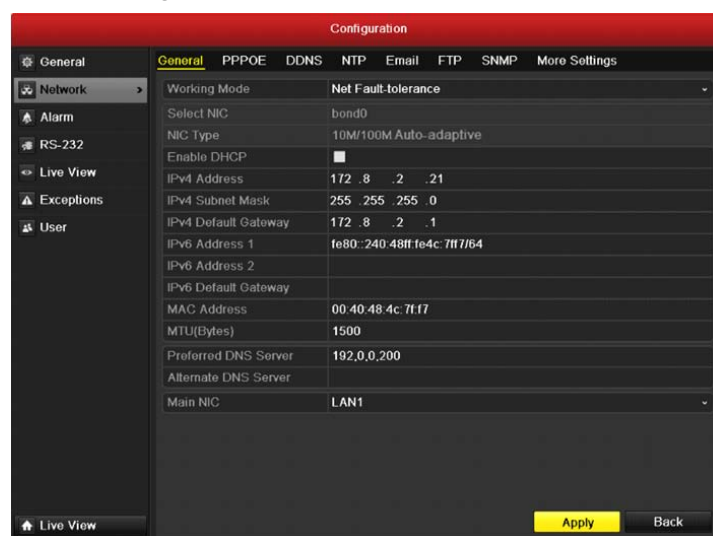

Figure 9.18 Network Settings Interface
3. Enter new **Server Port** and **HTTP Port**, as shown in Figure 9.18.